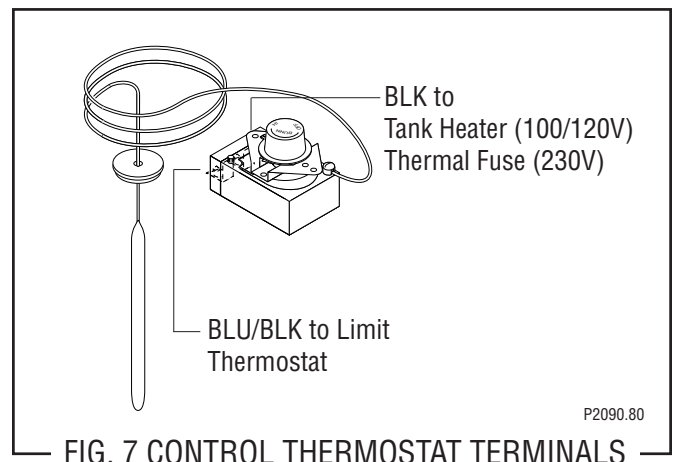

FIG. 7 CONTROL THERMOSTAT TERMINALS
8. Refer to Fig. 7 when reconnecting the wires.